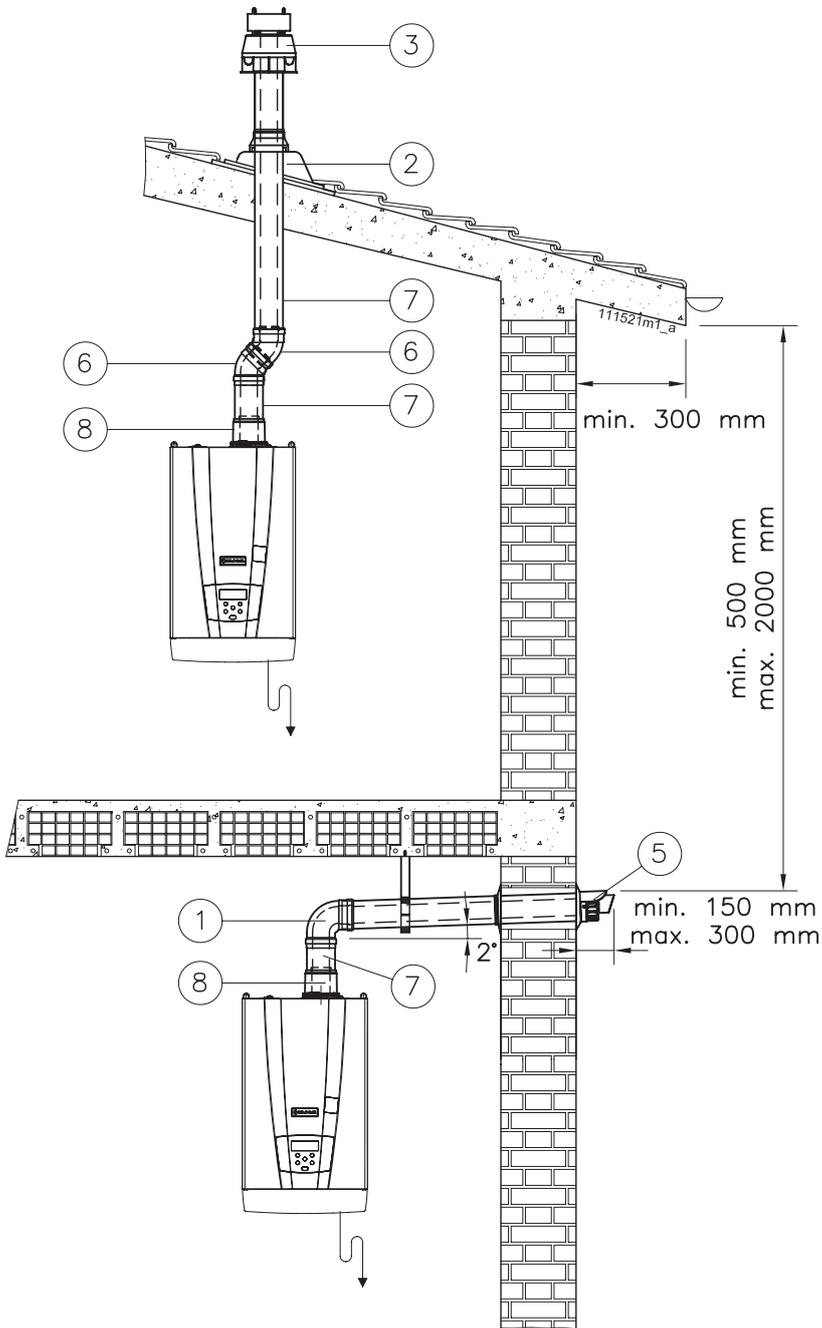

Figure 5-19 - Examples of coaxial pipe installations
**CAUTION !!!** Once these operations have been performed, check that the exhaust/intake terminal is exposed to the outdoors with the tolerances given in figure 5-19.